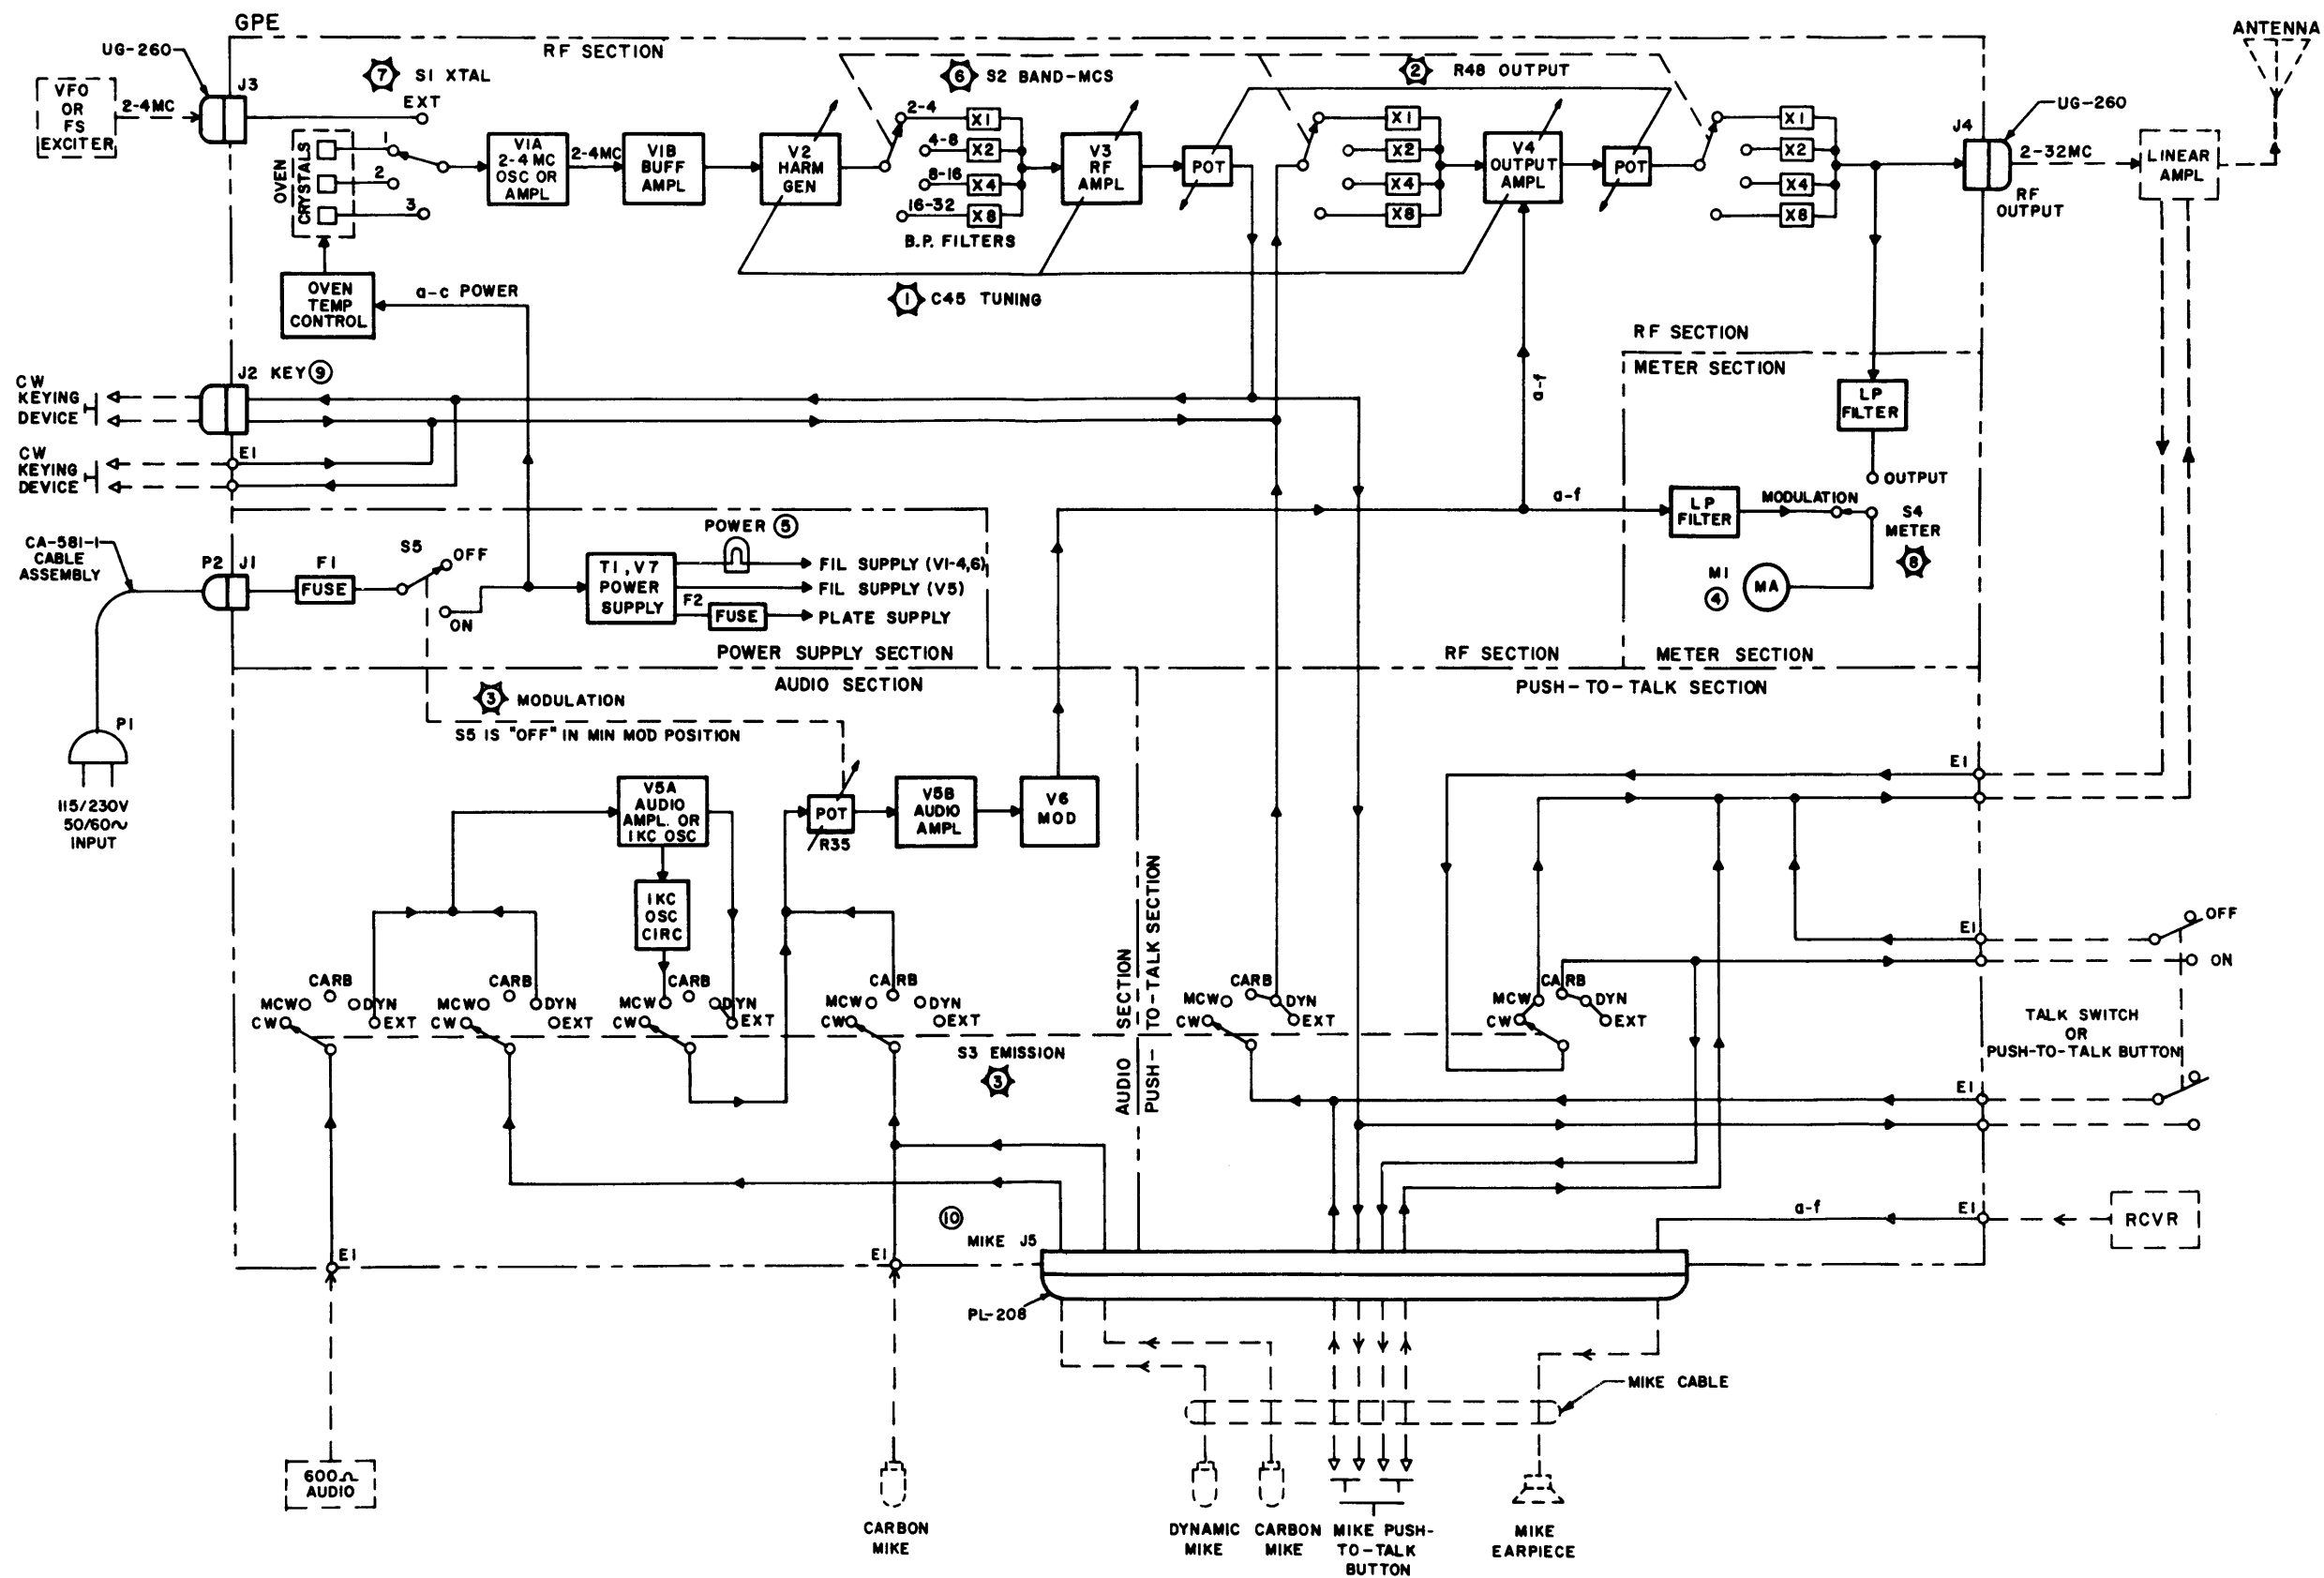

Figure 4-1. Functional Block Diagram, GPE General Purpose Exciter.
As shown in figure 4-1, Functional Block Diagram, the GPE consists of five principal sections:
a. **RF SECTION** (figure 4-1). The carrier frequencies are generated in the RF section. A frequency in the 2-4 mc range is generated by the crystal controlled oscillator V1A by selecting one of the three oven mounted crystals with S1 XTAL switch. The 2-4 mc is then passed through the buffer amplifier, V1B, to the harmonic generator, V2. Of the harmonics issuing from V2, one is selected by S2 BAND-MCS switch which is 1, 2, 4 or 8 times the fundamental frequency, by routing the V2 output through the appropriate band-pass filter. The resulting frequency is amplified in V3 and V4, passing through two more sets of band-pass filters in their outputs, and issuing at the GPE output connector, J4. R48 OUTPUT potentiometer controls the outputs of V3 and V4. The ganged TUNING capacitor, C45, fine-tunes V2, V3 and V4 outputs for the frequency selected.
b. **AUDIO SECTION** (figure 4-1). The GPE generates a 1-kc signal for MCW mode of transmission.
J5 receptacle is provided for a mike cable connection for either a carbon or dynamic mike. Figure 4-1 shows both for purposes of illustration. J5 has sufficient pins for connecting built-in push-to-talk controls if the mike assembly includes them. Connection points are provided at E1 for the 600-ohm source and a carbon mike without push-to-talk controls.
S3 EMISSION selector switch (together with K1 relay) sets up components of the audio section for the five transmission modes (CW, MCW, CARB, DYN and EXT). In figure 4-1, K1 relay is not shown; S3 switch is shown as representing the connections resulting from S3 and K1 working together.
c. **PUSH-TO-TALK SECTION** (figure 4-1). GPE is wired to provide simple connections for a receiver/transmitter push-to-talk system for CARB, DYN and EXT modes. Pushing the talk button:
- (1) Enables V3 and V4 operation.
- (2) Enables linear amplifier operation.
As described in section 2 (Installation), a talk-switch may be attached at either J5 or E1. Figure 4-1 shows both attachments. When mike assembly in-